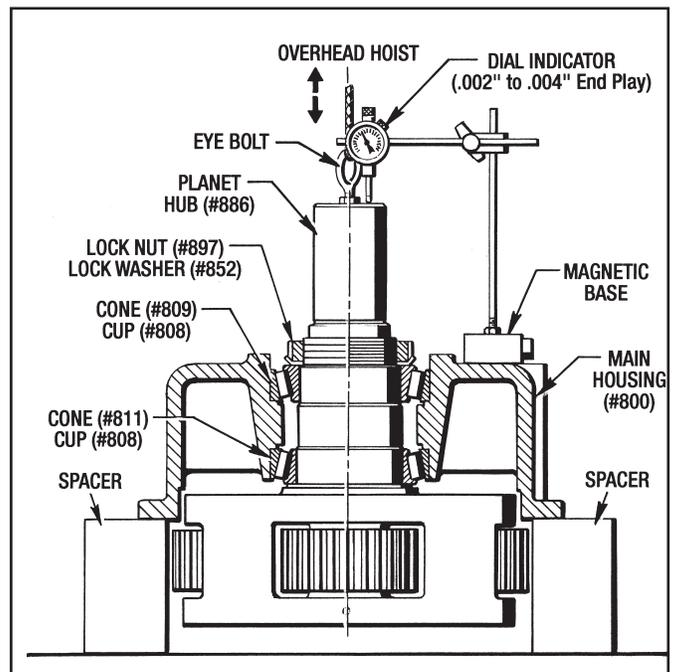

Figure 9.25 - Checking End Play
7. Place a Magnetic Dial Indicator on the Main Housing and Planet Hub Shaft as shown in Figure 9.25 to set the Bearing End Play.